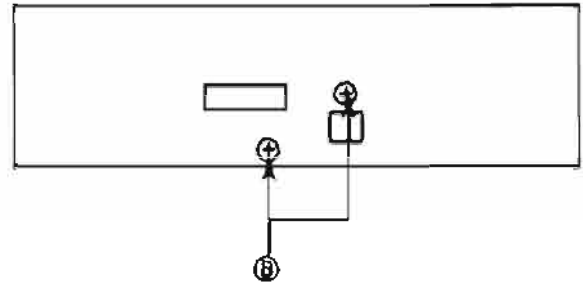

Fig. 2
- (1) The level of RF output (EFM output: amplitude of eye pattern) will be low.
- (2) The drive current required by the laser diode will be increased. In such a case, check the life of the laser diode following the flowchart below.
### (3) Measurement of laser diode drive current (Fig.2)
Cut the jump wire (B107) and add a 1Ω resistor. (See the following Fig.2)
(Fig.2)